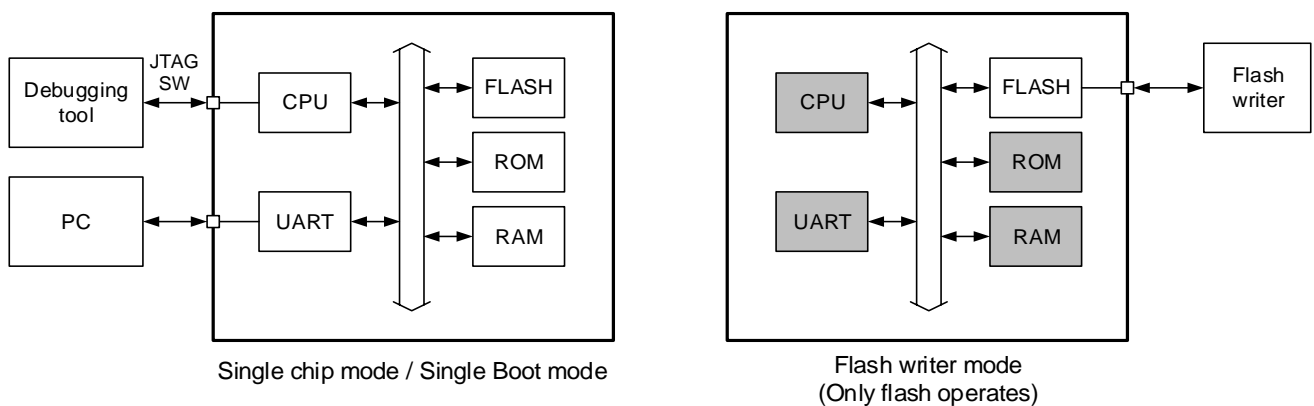

Figure 5.1 Measures for security risk
TMPM4K Group(2) contains two measures for security risk to prevent unauthorized access. Table 5.23, Table 5.24 and Figure 5.1 show the assumed access paths and protection targets for each operation mode.